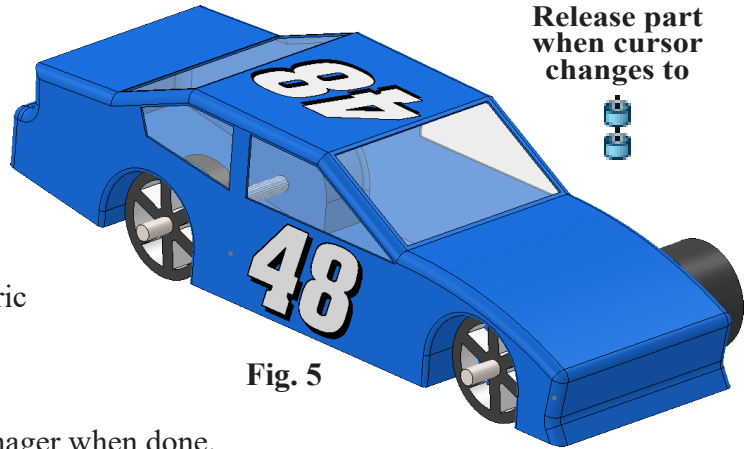

Fig. 5
Step 12. Rotate view to view **right side of Assembly** as shown in **Fig. 5**. To rotate, hold down middle mouse button (wheel) and drag.
Step 13. Place Wheels on right side Axles, **Fig. 5**. Release Wheel when cursor changes to indicate a Concentric mate .